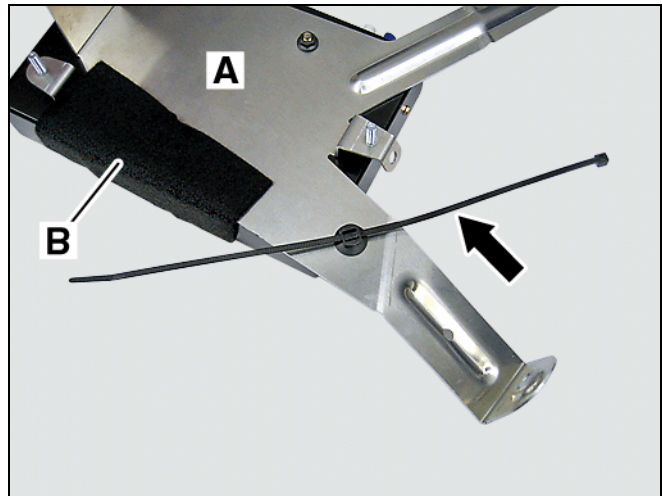

Figure 7
- For model 211.076 E55 AMG: install riveted cable tie (arrow, Figure 7) in pre-drilled hole on bracket (A) and place felt tape (B) on corresponding side of bracket assembly.